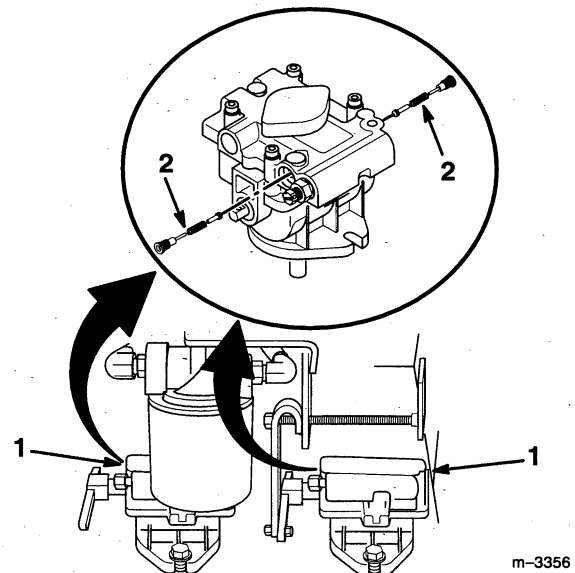

Figure 4
2. Thread new poppet check valves into hydraulic pumps (Fig. 4).